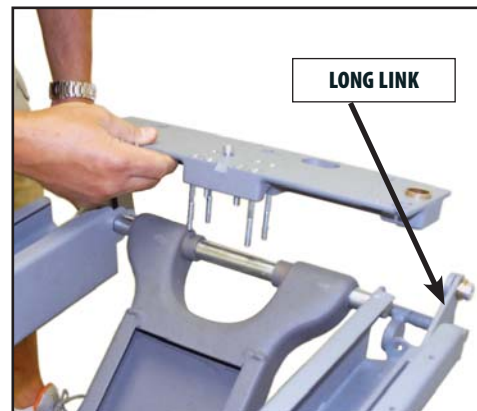

FIGURE 6.53
10. Remove the four remaining Screws securing the End Cap Base to the Yoke Pivot Mounting Block. Separate the End Cap Base and Yoke Pivot Mounting Block and remove. Refer to **Figure 6.53**.